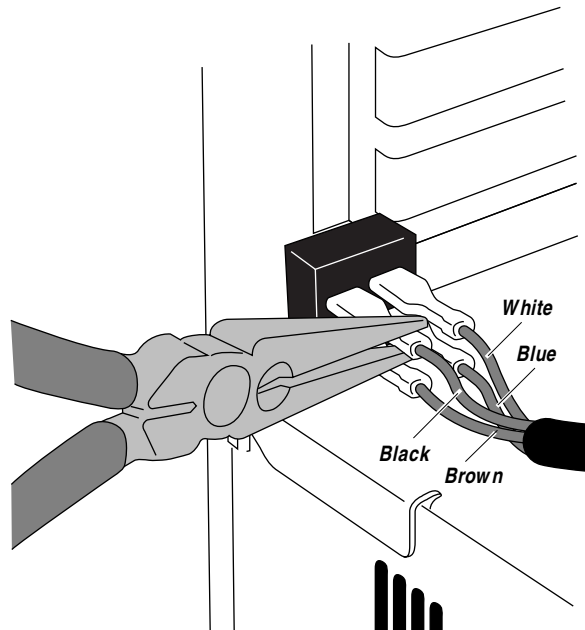

Figure 5-28 Removing the connectors from the power switch
2. ***Using a pair of needlenosed pliers, pull the four connectors off the power switch (see Figure 5-28 on page 5-39).***
2. ***Reseat the four connectors on the switch. If you aren't sure where a connector should be connected, see the label next to the power switch on the back of the Fiery XJ BP100 chassis. Also see Figure 5-28.***
4. *Using needlenosed pliers, disconnect the connectors from the power switch on the back panel (see Figure 5-28 on page 5-39).*